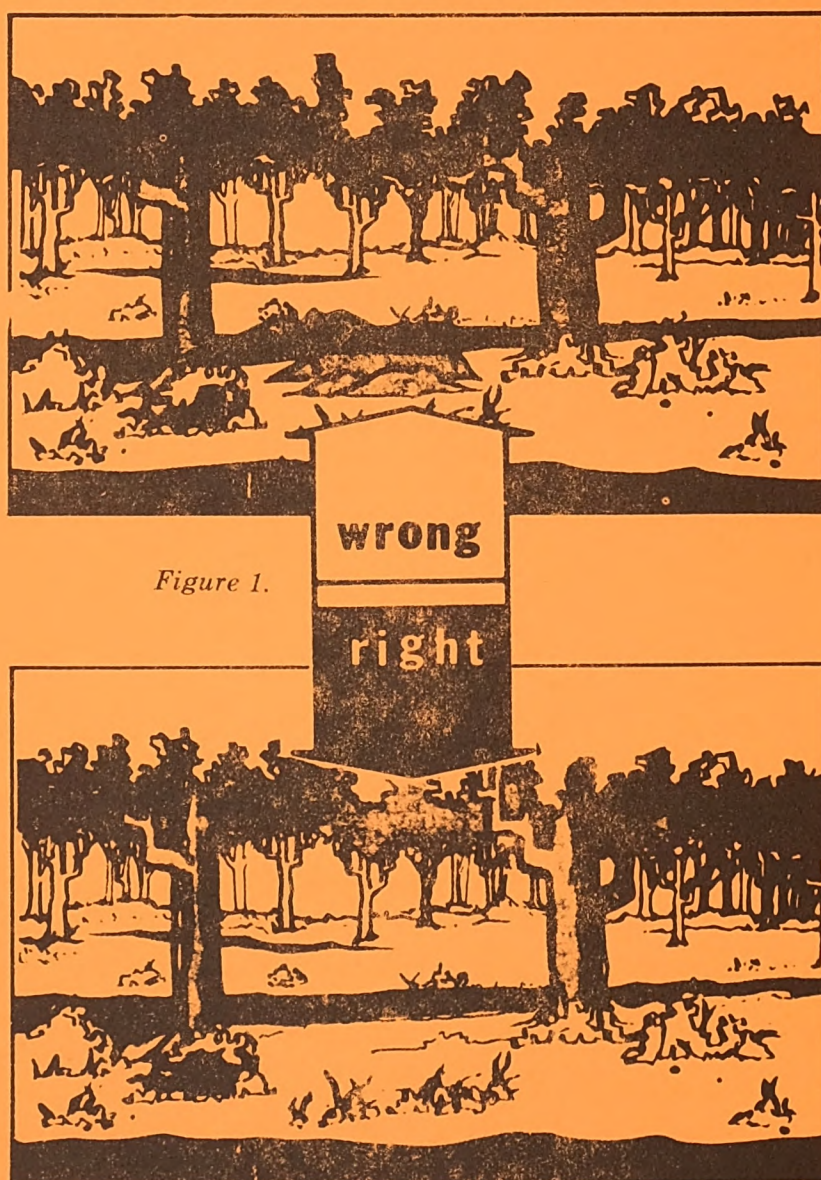

Figure 1.
d. Replace dying foliage constantly. Attempt to get sod, small trees, plants, etc., used as camouflage to grow, so that position will improve as time passes (figure 1). Remember, you can always improve your position.